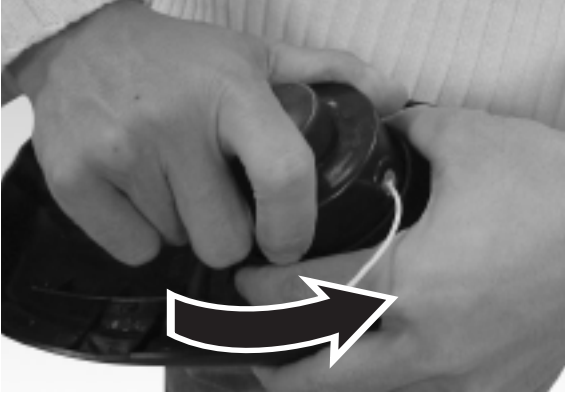
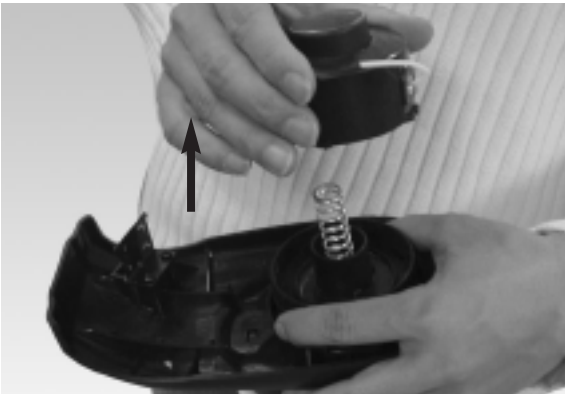

Fig. 11
Fig. 12
2. Remove the spool assembly from the trimmer. To do so, hold the outer ribbed part of the assembly with one hand, while pushing down and turning the spool head with the other to unlock it. (Fig. 11 & Fig. 12) The spool carrier and spool will now disassemble easily.